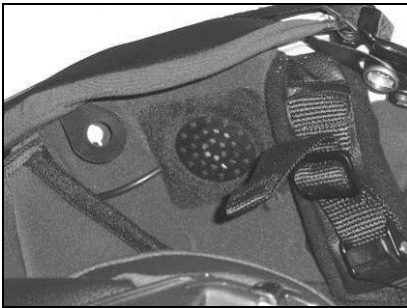

Fig. 19
- Position the right-hand side speaker in the specific cheek pad housing and secure it using the specific adhesive (Fig. 19).